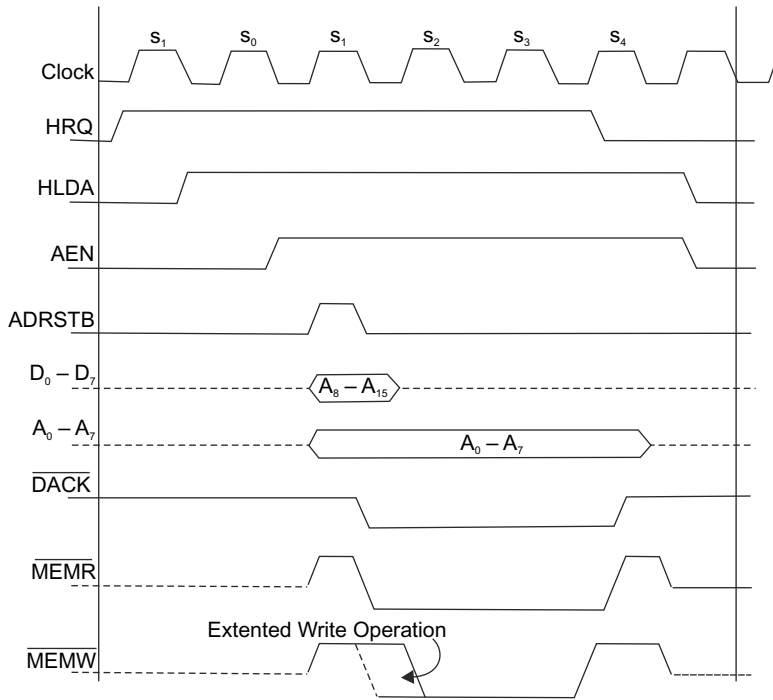

Fig. 9.23 Timing diagram of DMA operation
- ✓ **Not Ready Mode** 8257 uses four clock cycles to complete a transfer. Figure 9.23 shows the timing diagram of DMA operation. The READY input pin is used to interface 8257 with low-speed devices. The READY pin status is sampled in S_3 of the state diagram. If $READY = 0$, the 8257 enters a wait state. The status of READY pin is sampled in every state till it becomes high. Once the $READY = 1$, the 8257 proceeds to state S_4 from S_3 state to complete the transfer.